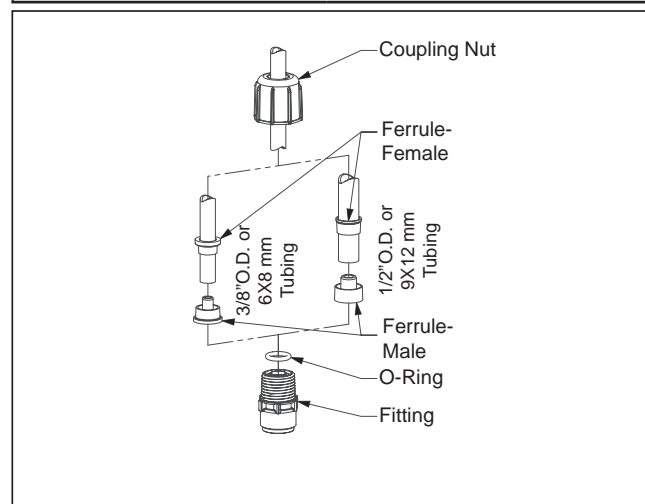

Figure 5
- 2b. For 3/8" or 1/2" OD tubing: Position a Female Ferrule about 1 inch (25 mm) from end of tubing. Orient the raised collar of the Female Ferrule toward the Coupling Nut. Then, insert the Male Ferrule onto the end of the tube, pushing the tube into the bottom of the groove in the Male Ferrule. Then slide the Female Ferrule down the tubing and with your fingers, press tightly into the Male Ferrule (reference *Figure 5*).